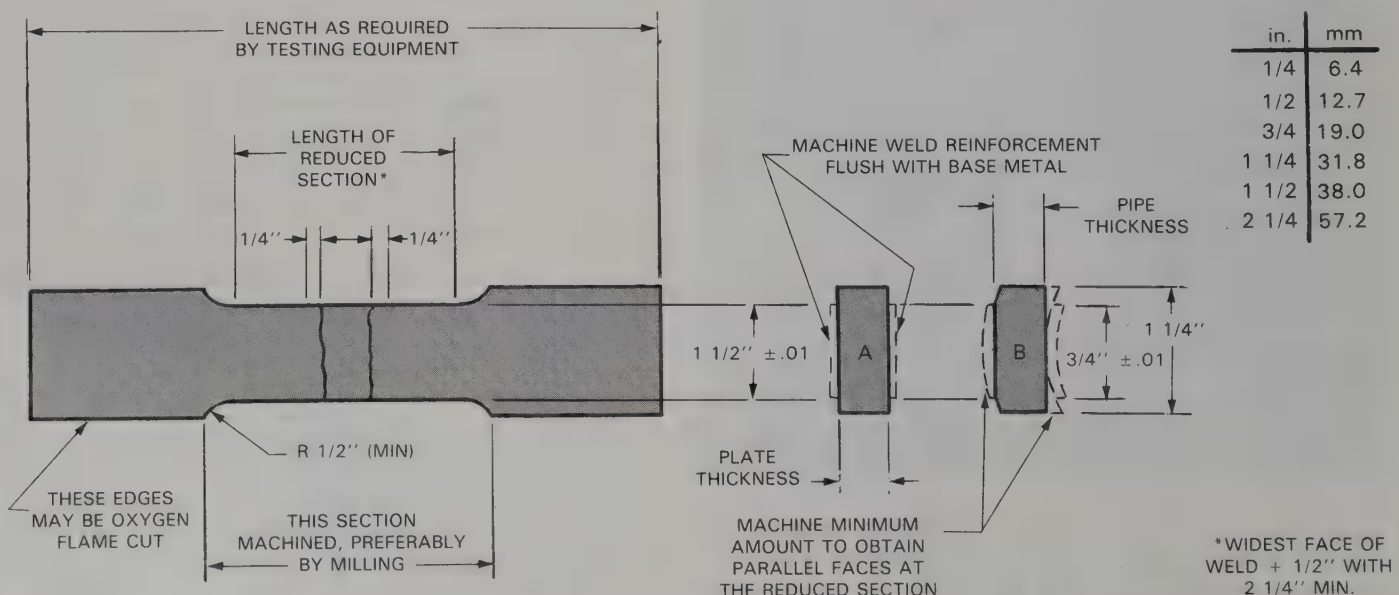
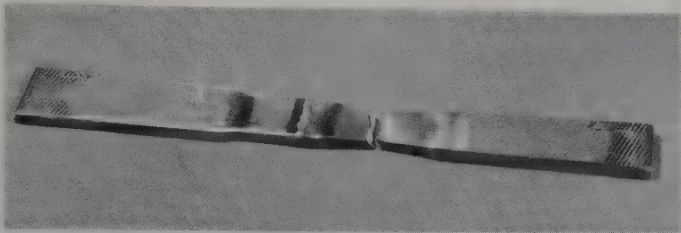

Fig. 32-7. Dimensions for reduced-section tension specimens for plates under 1" (25.4 mm) and for pipe 6"–8" (152 mm–203 mm) in diameter.
Fig. 32-8. A reduced-section tension specimen after it has been tested to failure. Note that it has broken outside the weld area, as it should.
After a butt weld on a plate or pipe is completed, a section is cut from the weld. This section is then prepared for a tensile test. See Fig. 32-7. Note the part of the specimen where the section has a reduced area. Fig. 32-8 shows a reduced section tensile specimen after it has been pulled to the breaking point.
3. Prepare each piece as shown in Fig. 32-7.